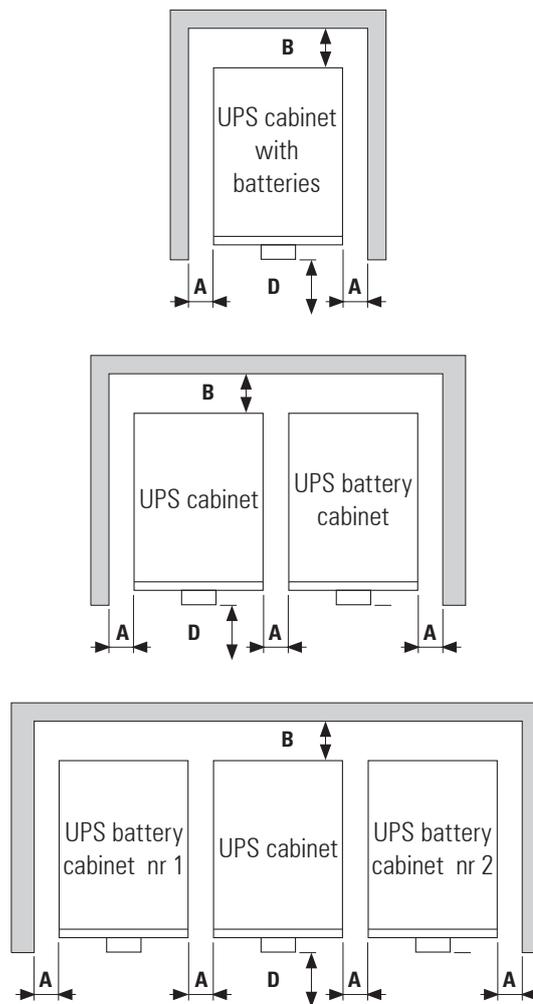

Fig. 30. Floor view with minimum distances for a UPS.
- As i.e. Fig. 30 shows two typical cases depending on the model. The one that is based on a single cabinet, UPS with batteries fitted in, and the one of the UPS with batteries in a separate cabinet or extended back up time.